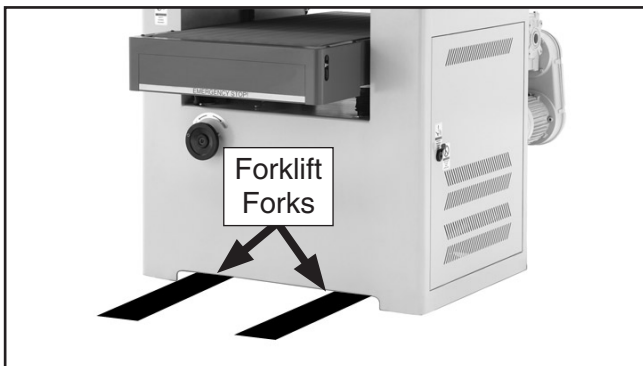

Figure 13. Lifting the planer/sander.
3. Using a forklift (**Figure 13**), lift the machine just enough to clear the pallet and floor obstacles, then move it to the prepared location.